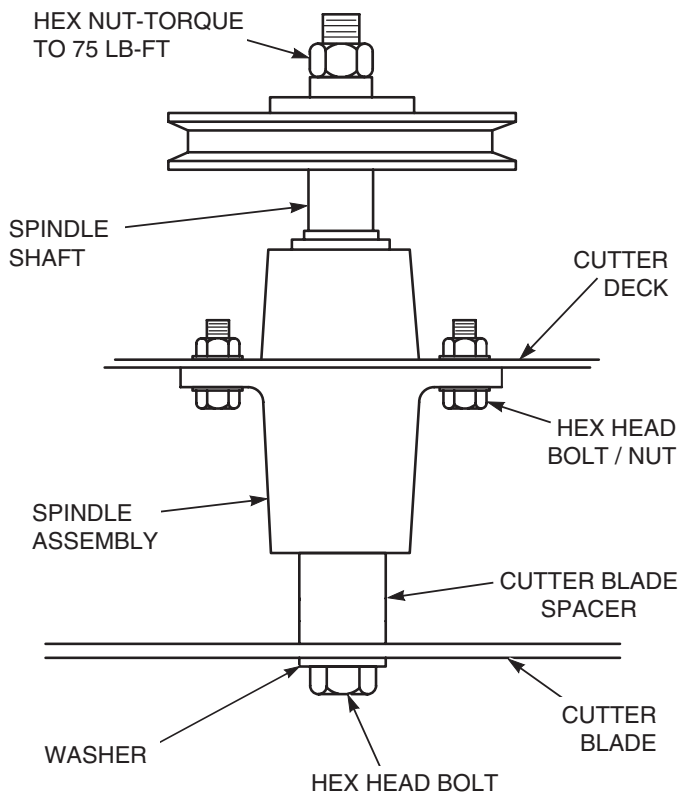

Figure 7-8. Blade Replacement
- Secure the cutter blades to prevent them from rotating, (use the optional Blade Buddy tool P/N 9212, to assist in securing the cutter blades), remove the nut from the blade attaching bolt. Remove the cutter blade, bolt and spacer from the spindle shaft. See Figure 7-8.
- Install the hex nut to the blade bolt at the top of the cutter spindle. Secure the blades from rotating and torque to 75 ft/lbs. See Figure 7-8.